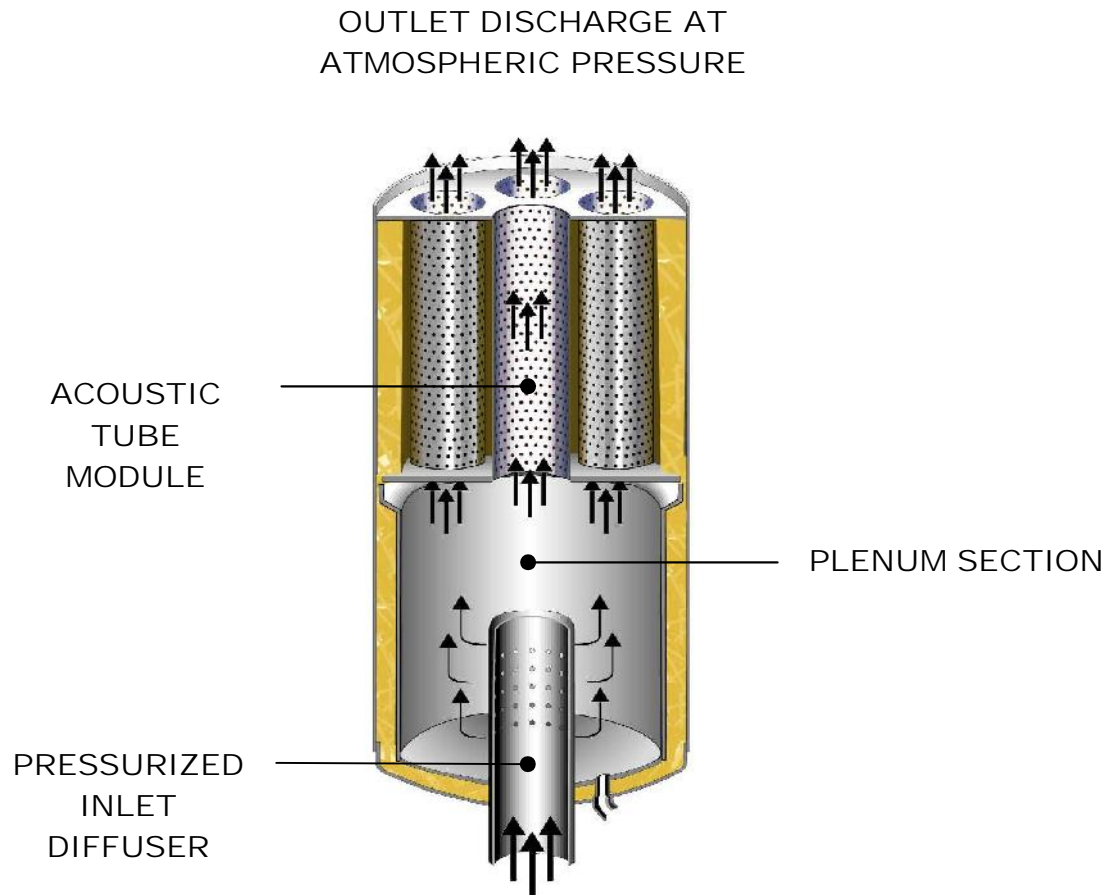

FIGURE 1. VENT SILENCER
The three principal components of the PULSCO vent silencer that actively reduce noise are the **Pressurized Inlet Diffuser**, **Plenum Section** and **Acoustic Tube Module** as shown in Figure 1. Components accomplish diffusion and smoothing of the flow and an overall reduction of noise.
| (8) External Liner | 12 Gage sheet wrapped around the shell (not shown in the sectioned view of Figures 1 or 3). This prevents shell radiation noise from exceeding the noise out of the tube module. |